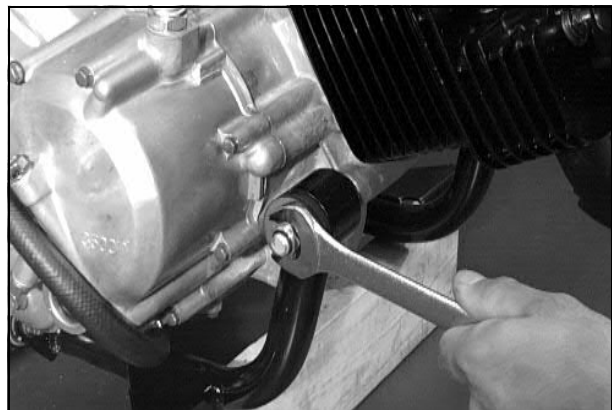

Fig. 28
32. Remove the cap screw securing the front engine mount to the sub-frame. Account for spacers, (Fig. 28).